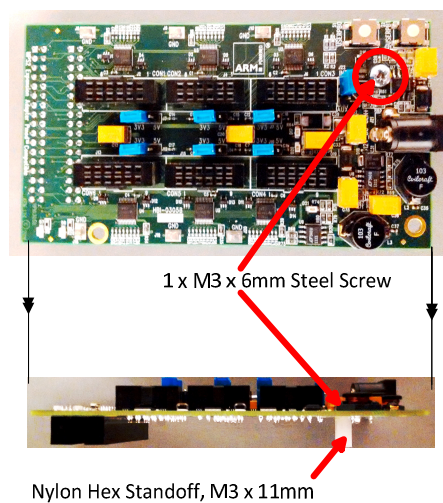

Figure 3-3 Plastic standoff
3. Install plastic standoff (Hex Nylon Standoff M3 x 11mm) on adapter board and fix it with screw (Steel Screw, M3 x 6mm) (Figure 3-3).